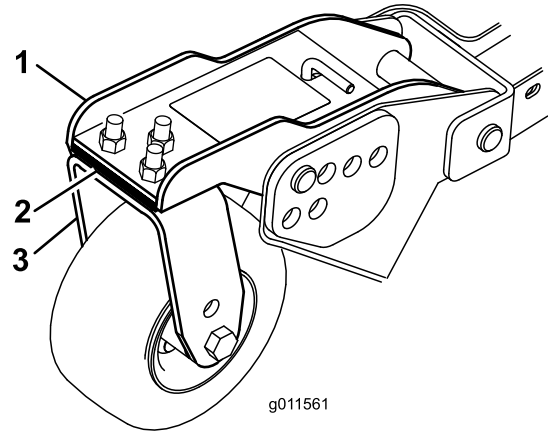

Figure 111
1. Remove the cap screws and nuts securing the caster arm to the caster fork (Figure 111).